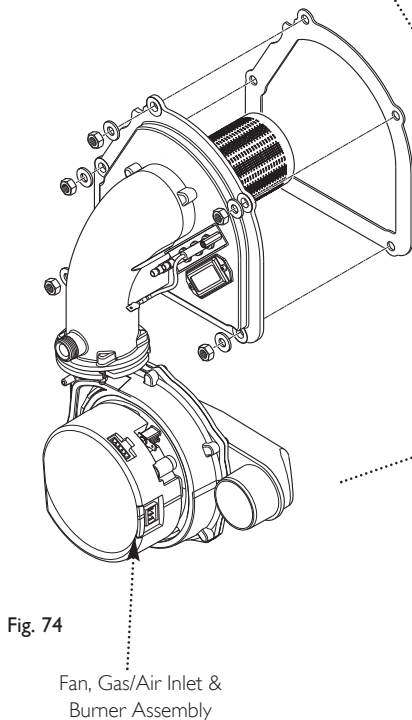

Fig. 74
9. Undo the five retaining nuts and washers and remove the fan, gas/air inlet and burner assembly (Figs. 74).